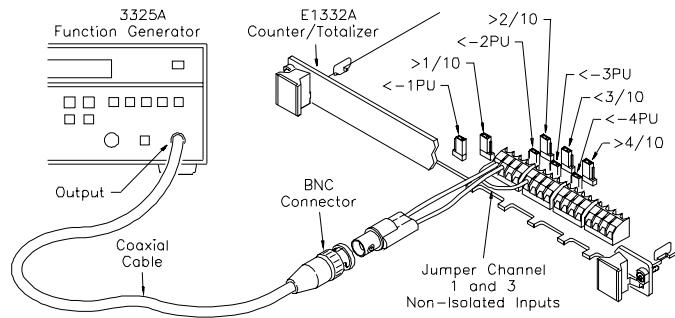

Figure 4-8. Frequency Test Setup
1. Connect the equipment as shown in Figure 4-8.